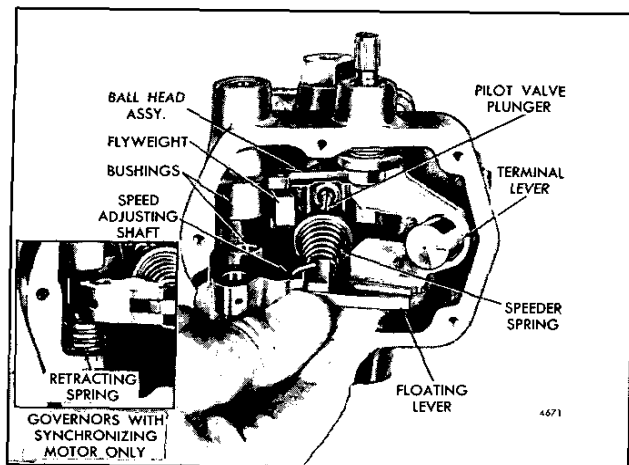

Fig. 15 - Installing Speed Adjusting Lever, Floating Lever, Speeder Spring and Pilot Valve Plunger Assembly
14. On a governor equipped with a synchronizing motor, place the speed adjusting lever retracting spring over the speed adjusting lever shaft bushing in the governor housing, with the hooked end of the spring over the slot between the two shaft bushings. See inset in Fig. 15.
On a governor equipped with a synchronizing motor, be sure the hooked end of the speed adjusting lever retracting spring is on top of the speed adjusting lever before installing the shaft (see inset in Fig. 15).